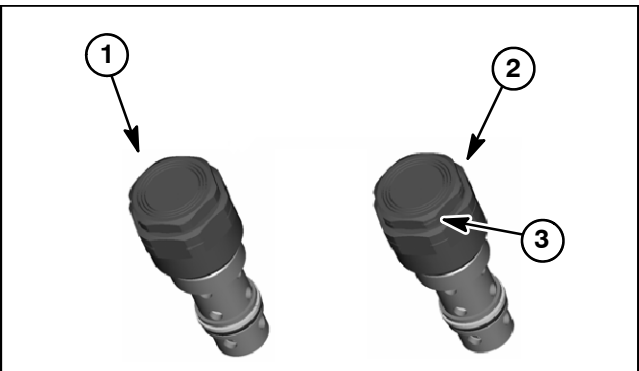

Figure 108
32. Thread relief cartridges into correct center case ports and torque from **24 to 27 ft-lb (32 to 37 N-m)**. The reverse relief valve cartridges can be identified by the groove in the hex head (Fig. 108).